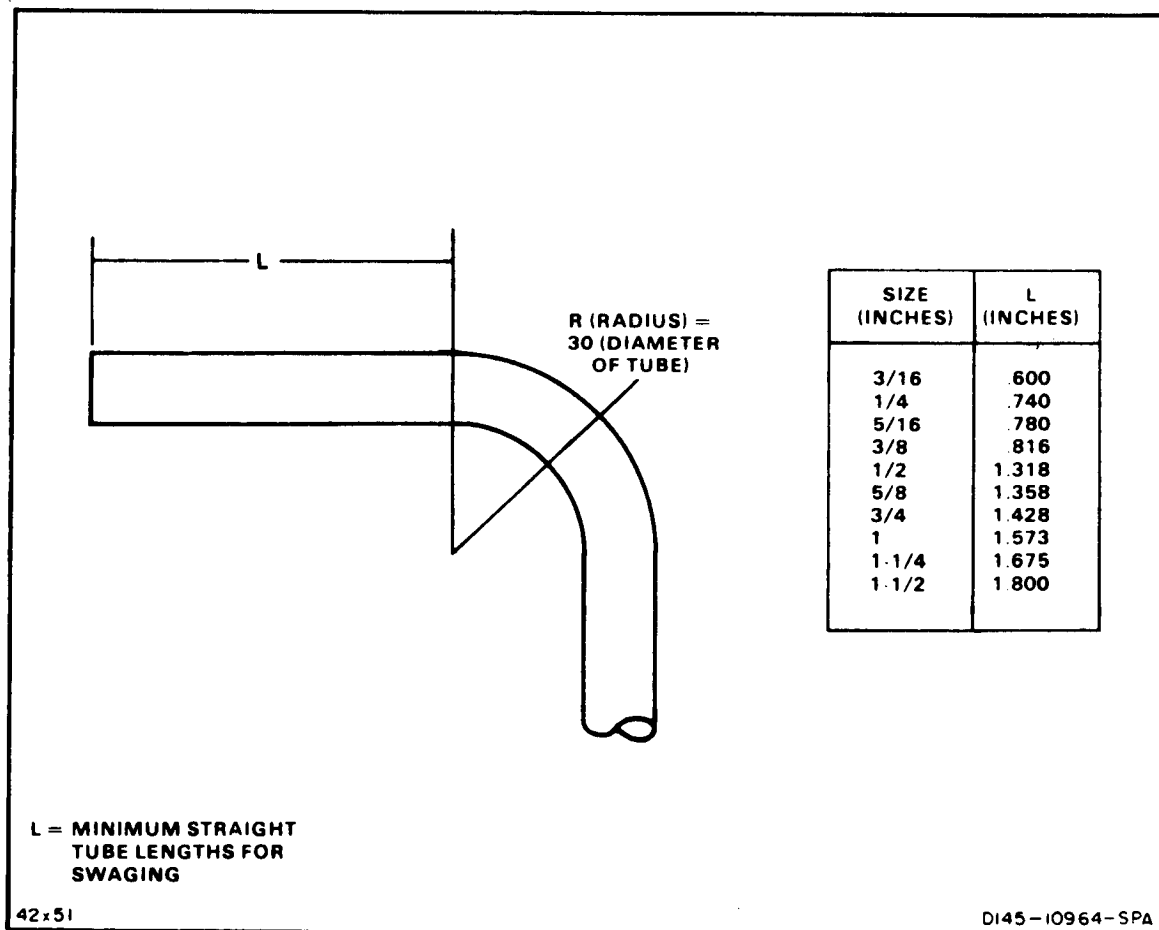

Figure 2-3. Tube and fitting clearances.
3. Determine correct tube and fitting clearances (see Figure 2-3).